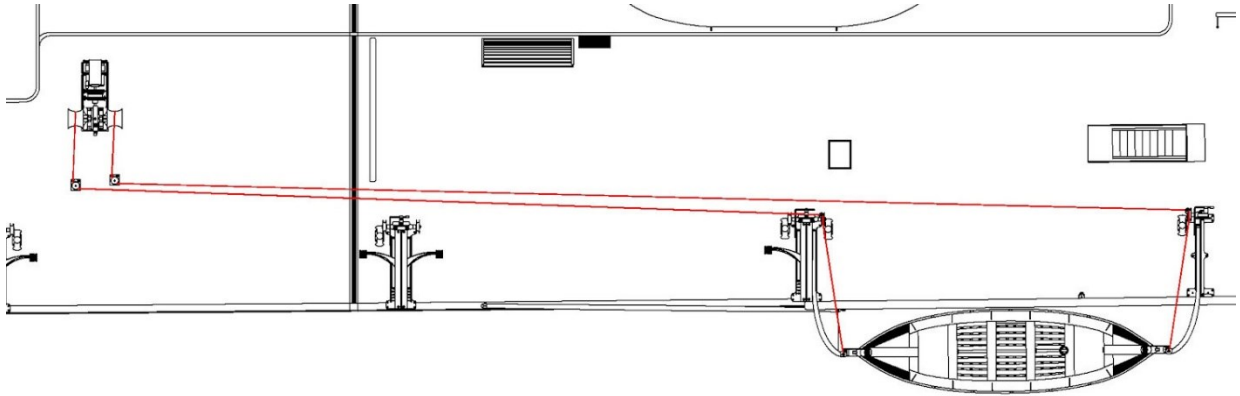

Figure 2
3. The portable roller fairleads, of which there are two per boat winch, are positioned outboard of the boat winch, perpendicular to the axis through the warping drums. This can be seen in Figure 2.